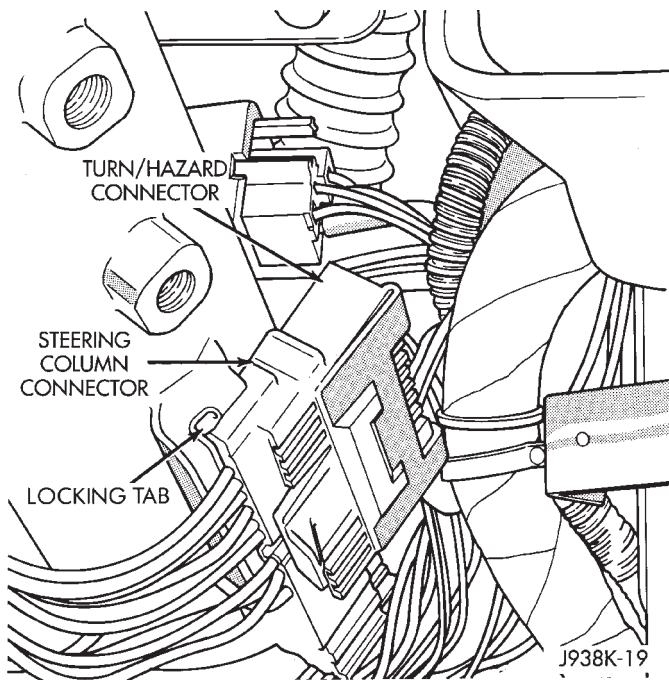

Fig. 8 Turn/Hazard Switch And Steering Column Connectors
(25) Push turn/hazard connector up and out of steering column connector (Fig. 8).